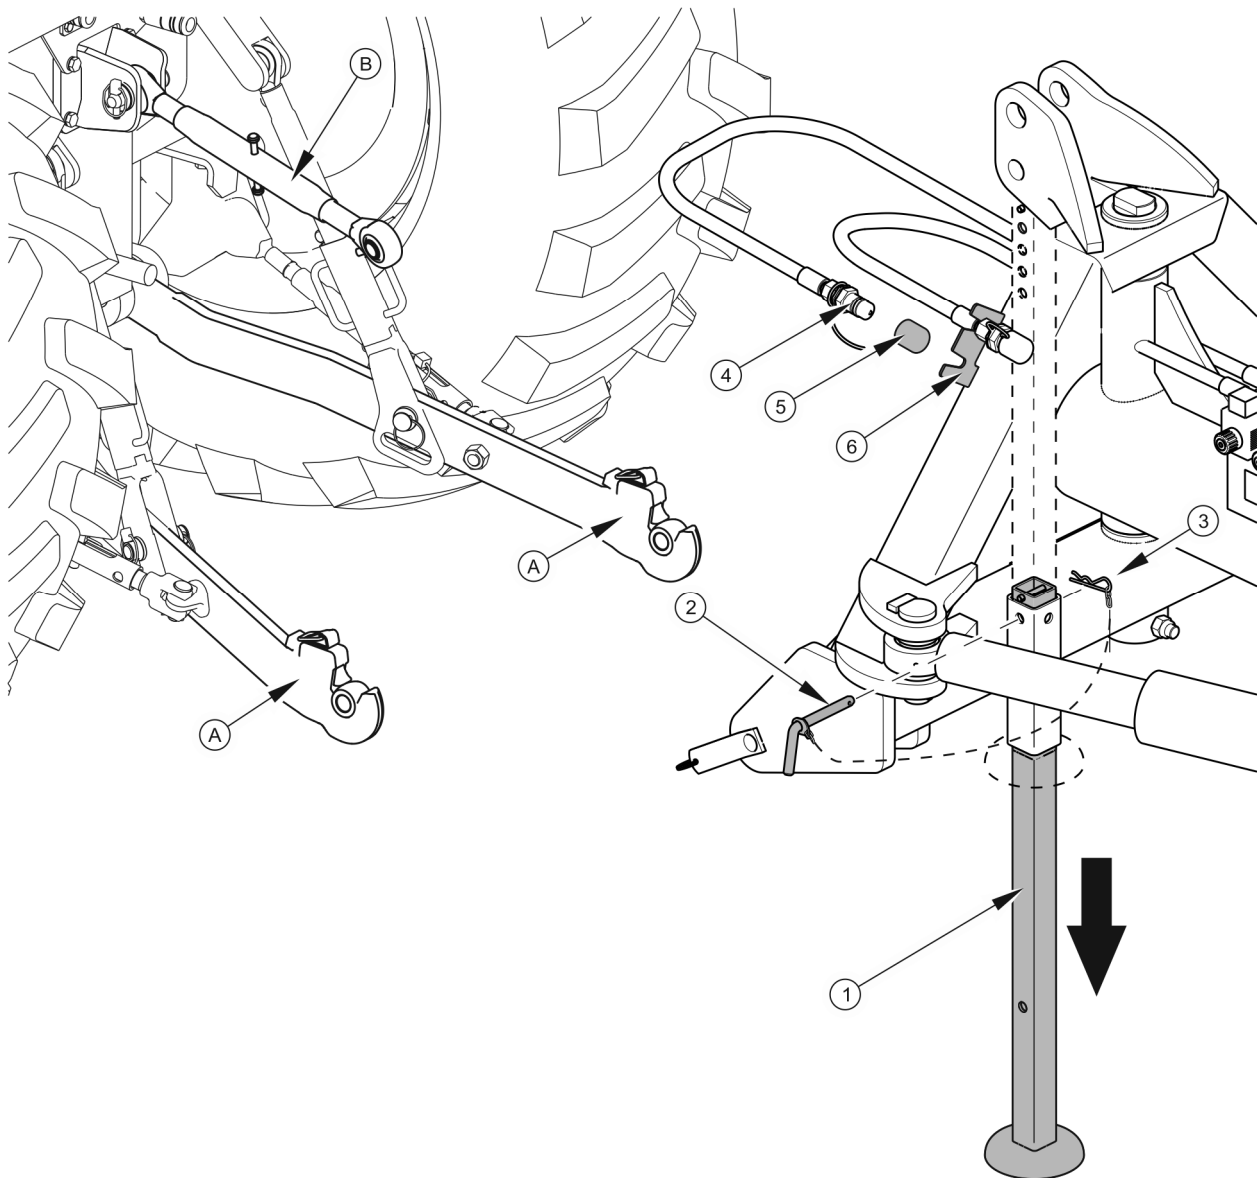

FIGURE 4.6 Lowering of parking stand
- with the road grader lifted, unlock the cotter pin (3) and remove the linchpin (2) - (FIGURE 4.6),
- lower the parking stand (1) and secure it with the linchpin (2) and the cotter pin (3),
- disconnect the plugs (4) of hydraulic conduits and the electrical system cable with a 3-pin plug,
- secure the plugs (4) with the stoppers (5) and place them in the bracket (6),
- disconnect the top link (B) (central connector) and the lower links of the tractor three point linkage (A) and drive tractor away from the machine.